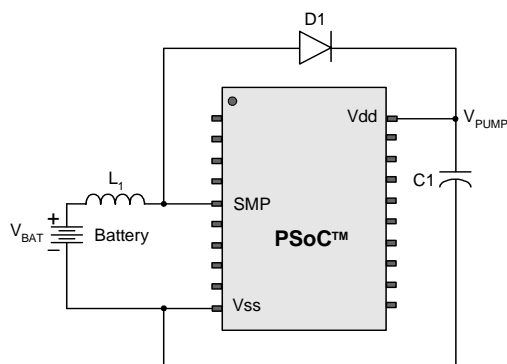

Figure 3-2. Basic Switch Mode Pump Circuit
a. $L_1 = 2\ \mu\text{H}$ inductor, $C_1 = 10\ \mu\text{F}$ capacitor, $D_1 = \text{Schottky diode}$. See Figure 3-2.